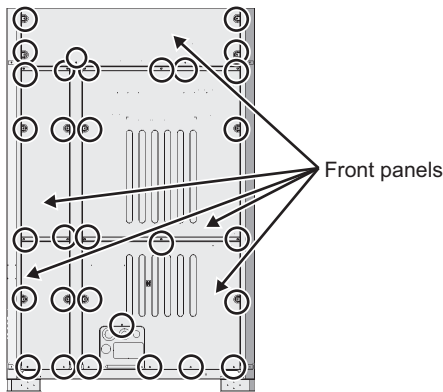

Fig. 54
(1) Remove the panel from the unit. (31 Screws: Fig. 54)